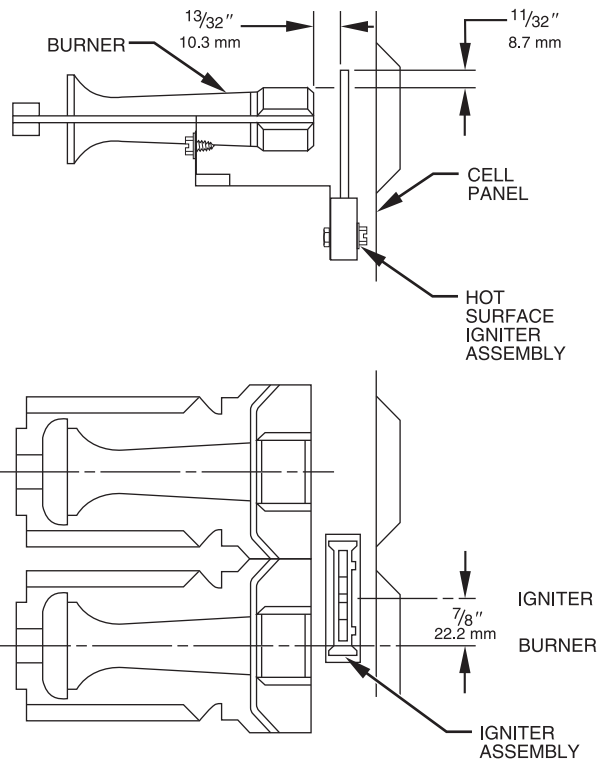

Fig. 23 – Silicon Carbide Igniters
7. For Silicon Carbide igniters, see Fig. 23.